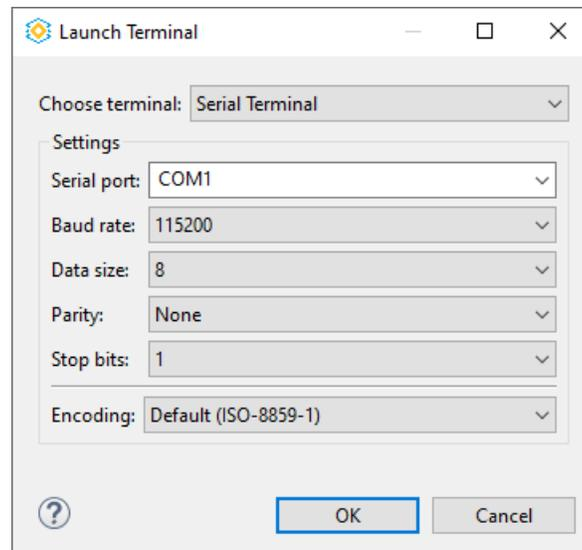

Figure 4.12. Launch Terminal Dialog
3. Choose the **Serial Terminal** and configure the **Serial port** with **Baud rate** 115200 (Figure 4.12).